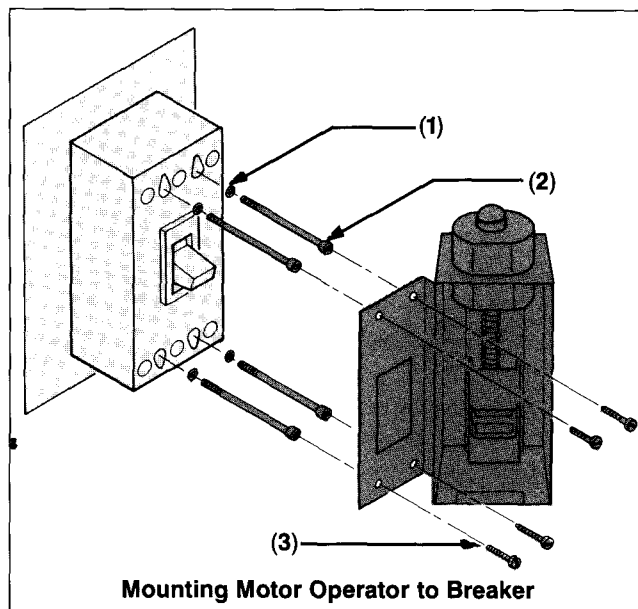
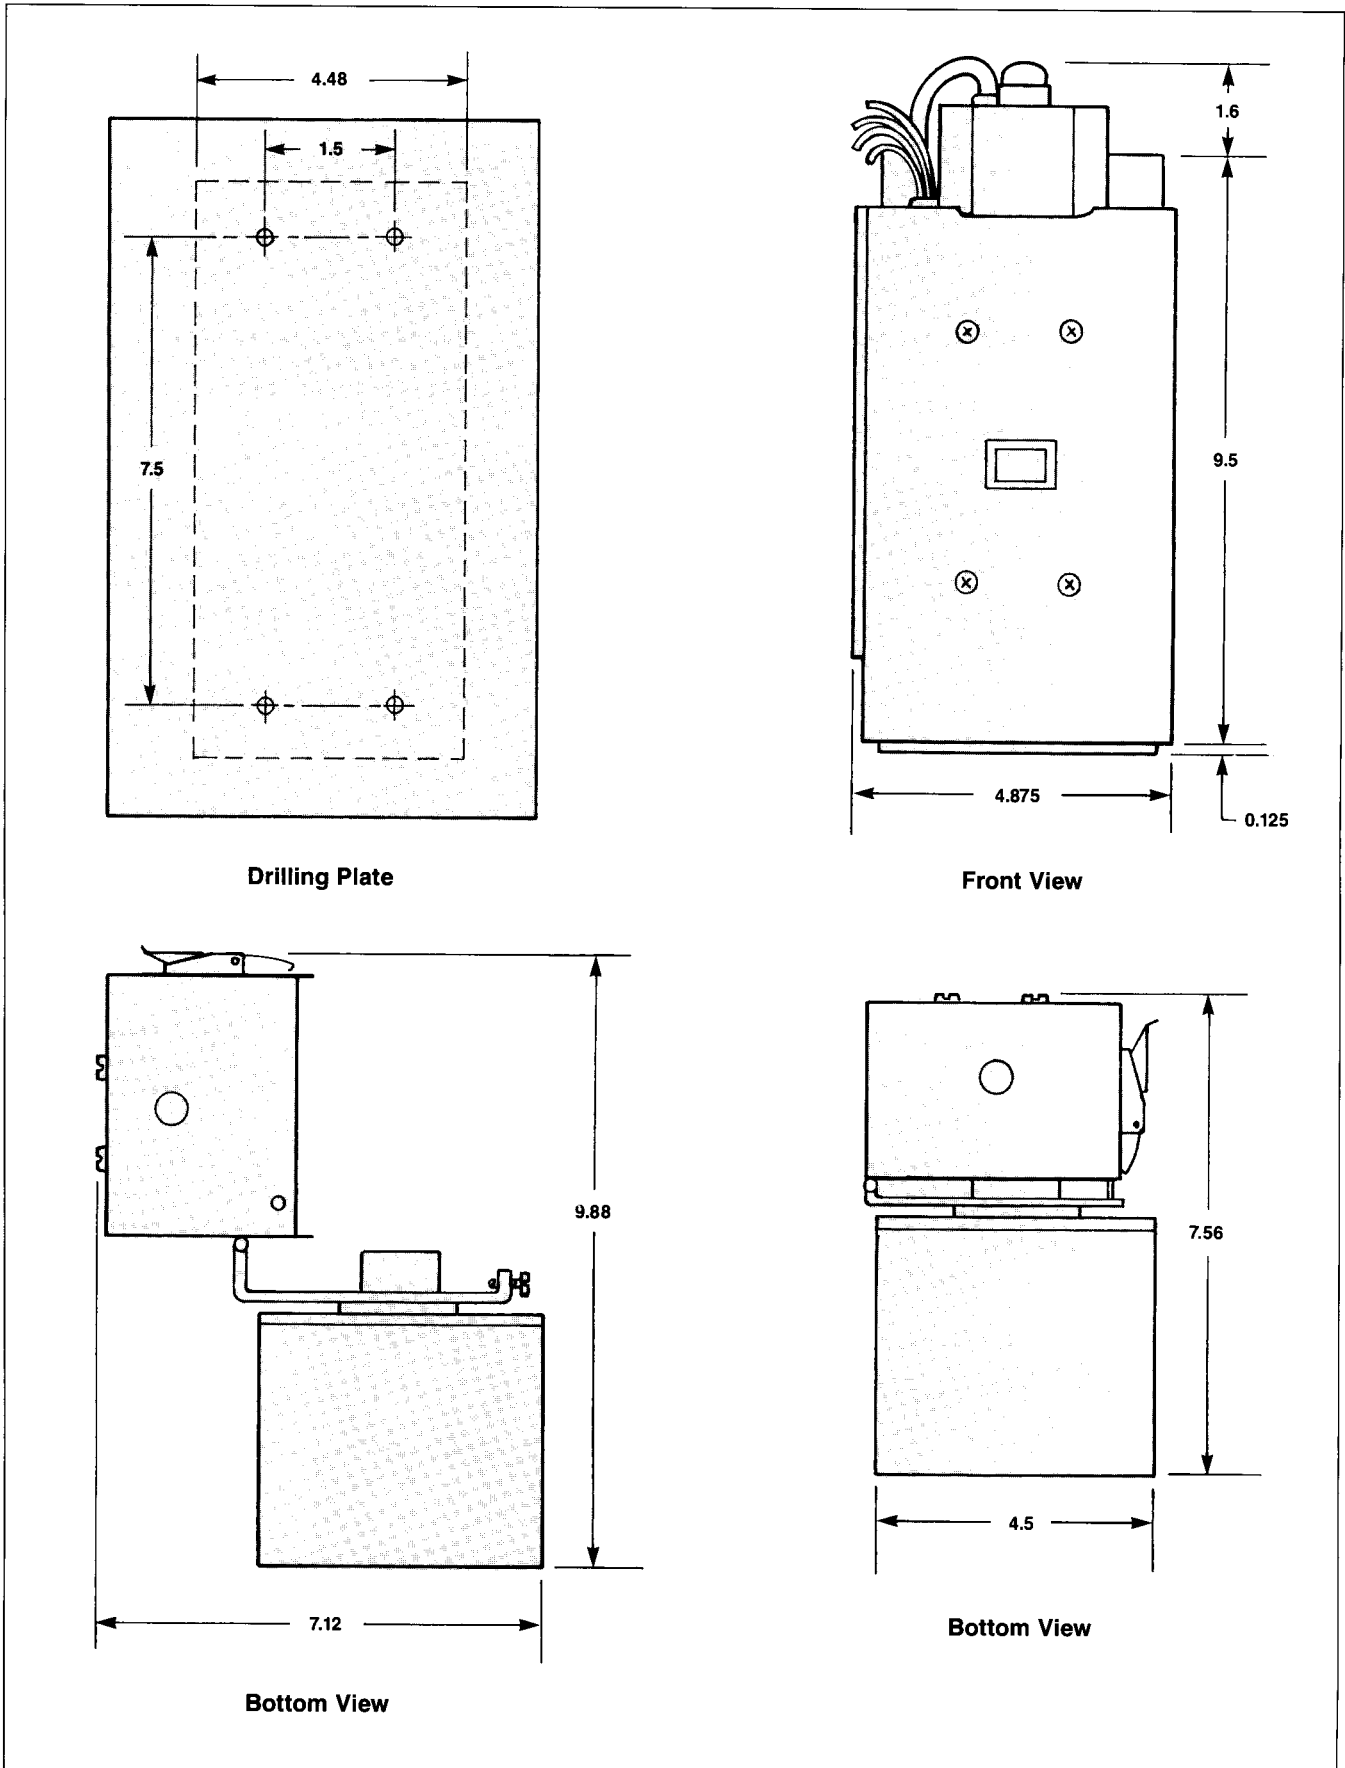

Figure 1
Figure 3
- G. Place bottom spring (11) over the bottom thin wall hex nut inside the enclosure door.
- H. Turn the handle 1/4 turn clockwise (looking from inside the enclosure door) and attach the latch plate roller to the handle shaft, while inserting the bent leg of the spring into the hole in the latch plate. Fasten with a locking-type flange nut. Tighten the nut, then loosen 1/8 turn to allow movement of the roller assemblies (Figure 1).
NOTE: Straight leg of spring must rest against pin (12) on handle plate. See inset on Figure 1.
- I. Place top spring (13) over top thin wall hex nut. Attach lockout plate (14) to lockout screw using locking type flange nut. Tighten flange nut. Insert bent leg of spring into hole in lockout plate as shown in Figure 1 detail.
- J. Attach the interlock defeater lever (15) to the latch bar (16) with two #10 lockwashers and #10-24 screws.
NOTE: The position of lever depends on enclosure depth (Figure 3).
- B. Attach the circuit breaker to its mounting surface using the mounting washers (1) and mounting screws (2) supplied with the motor operator (Figure 1). Refer to installation dimensions (Figure 3).
- C. With its cover open, attach the motor operator to the circuit breaker using four #10-32 truss head mounting screws (3) provided (Figure 1).